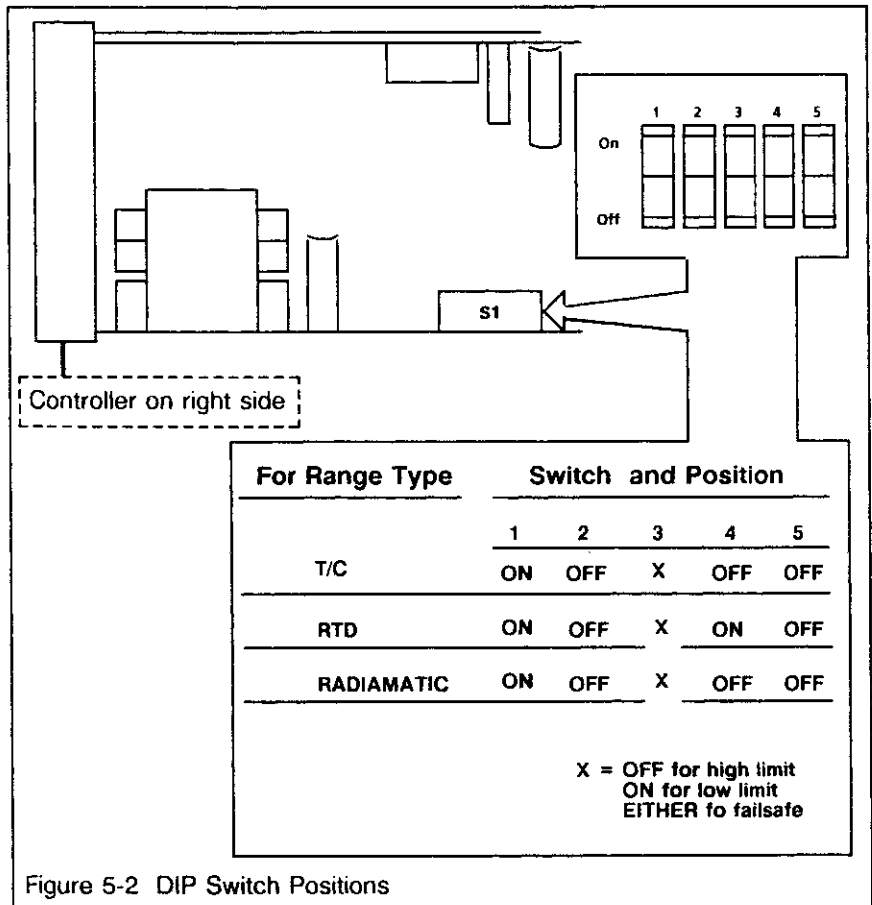

Figure 5-2 DIP Switch Positions
2. The switches are located at the rear top position on the main assembly board. (See Figure 5-2.)
3. Set the switches for the range type desired according to the table in Figure 5-2.